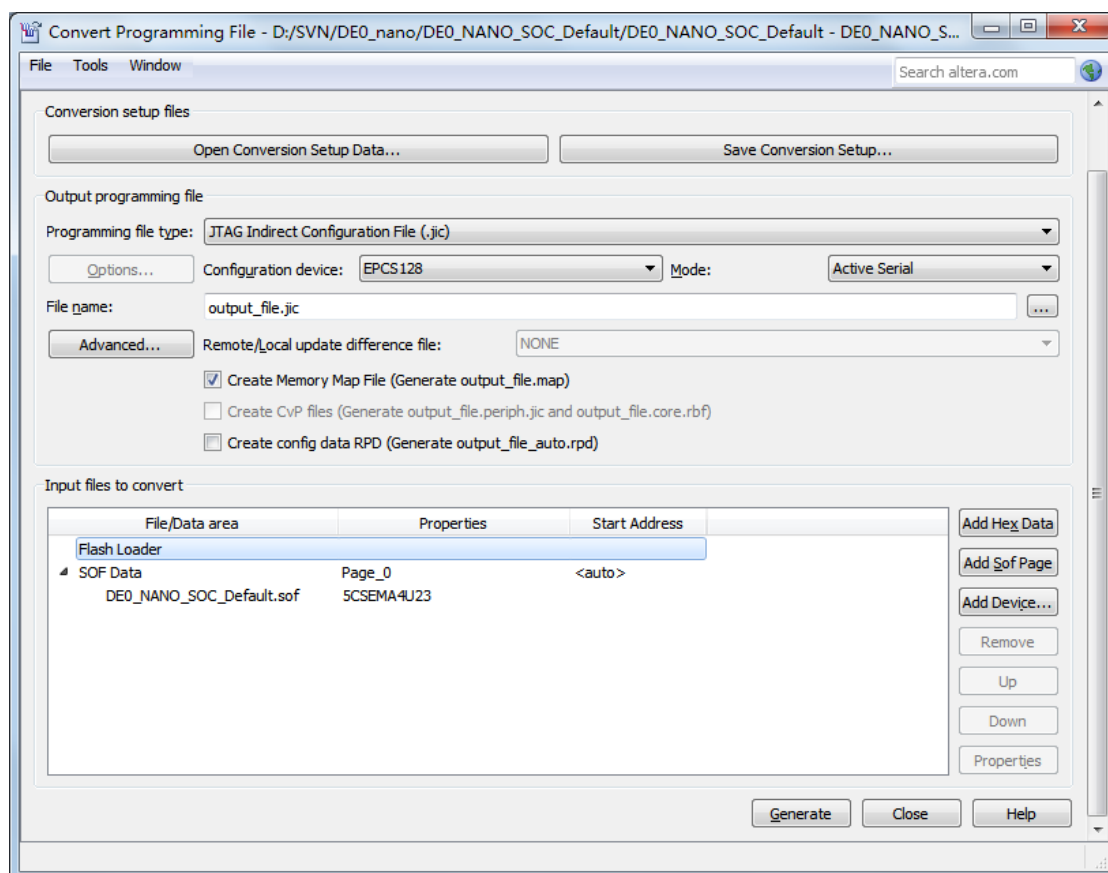

Figure 8-4 Click on the “Flash Loader”
10. Click on the **Flash Loader** and click **Add Device**, as shown in **Figure 8-4**.